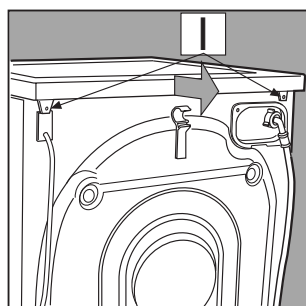

Fig. 3
**2.** Remove the covering lid by unscrewing the two screws **I**, and then pull it towards you [fig. 3].